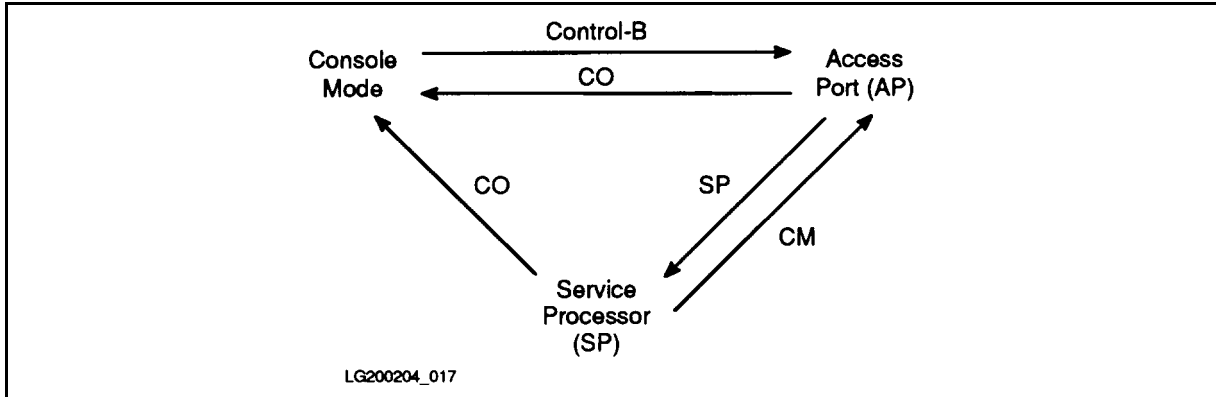

Figure 5-3. Console Mode, Access Port, and Service Processor
From the system console, you can access the commands available from the Access Port (AP) and the Service Processor (SP). Figure 5-3 summarizes how to change from one mode to another.